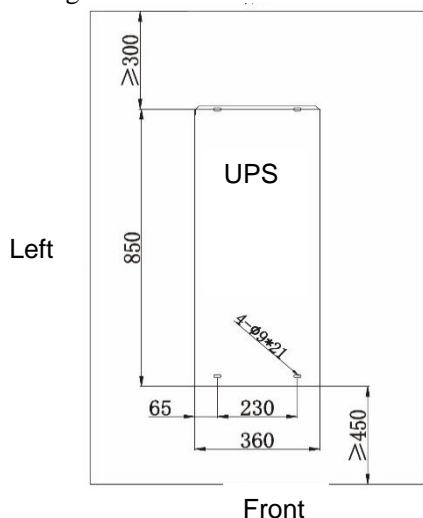
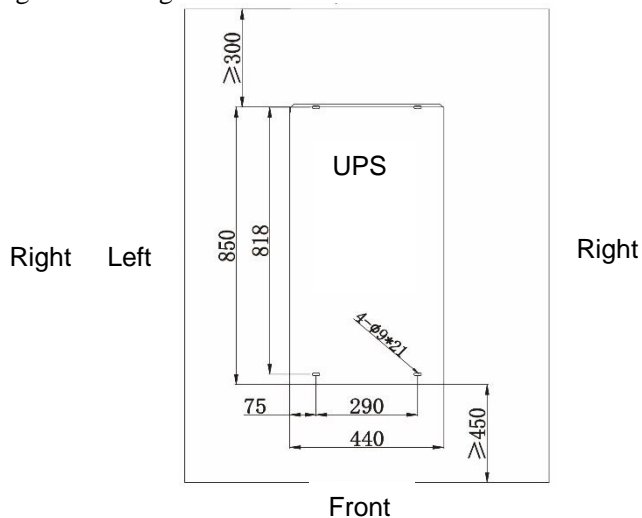

Fig. 3-4 Hole size of 30/40/60/80 kVA
Fig. 3-5 Hole size of 90/120 kVA
Step 1: determine the installation position and position the mounting surface according to the hole size diagram. The hole size is shown in Fig. 3-4 and Fig. 3-5.